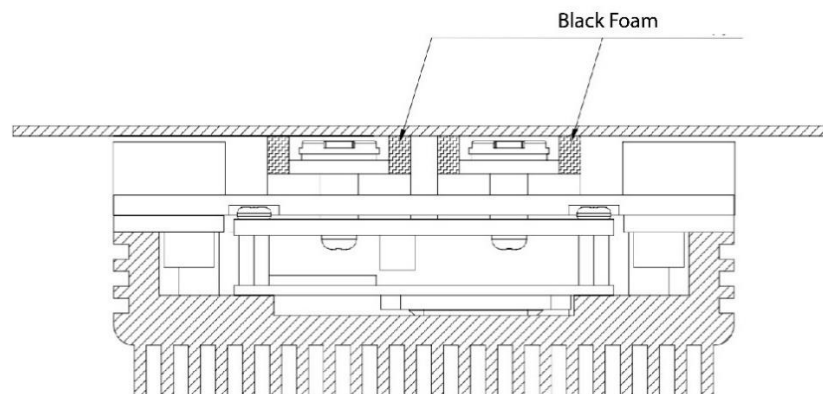

Figure 8.3 Foam shading design
- 6) The area around the lenses needs to be shielded. Foam can be used to cut off stray light. Place the foam in close contact with the front glass or acrylic to reduce the influence of stray light on image collection, as shown in Figure 8.3.